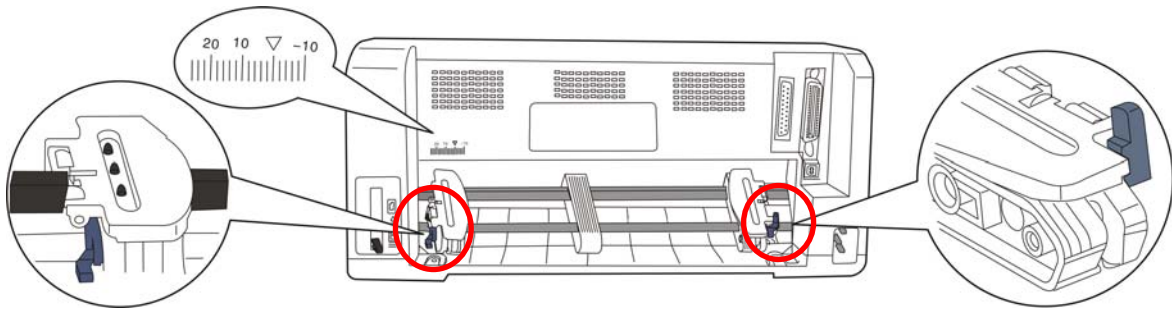

Figure 3-9 Adjusting the tractor position
4. Move the tractor left lock to the proper position in the left ("▽" denotes the transverse printing home position). Press down the tractor left lock to lock the left tractor. Then move the right tractor to the proper position. (As shown in Figure 3-9)